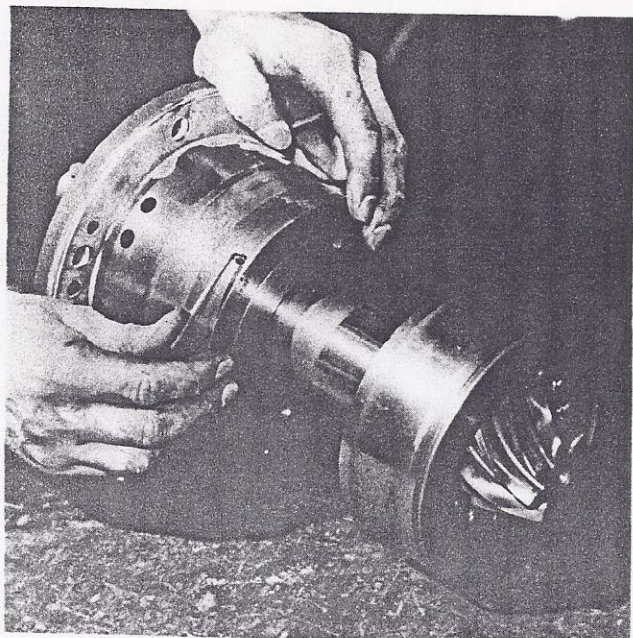

Fig. 7
- Loosen set screw and remove internal locknut (125), fig. 7 + 8.
- Remove locknut, washer (109 + 110) and spacer (113).